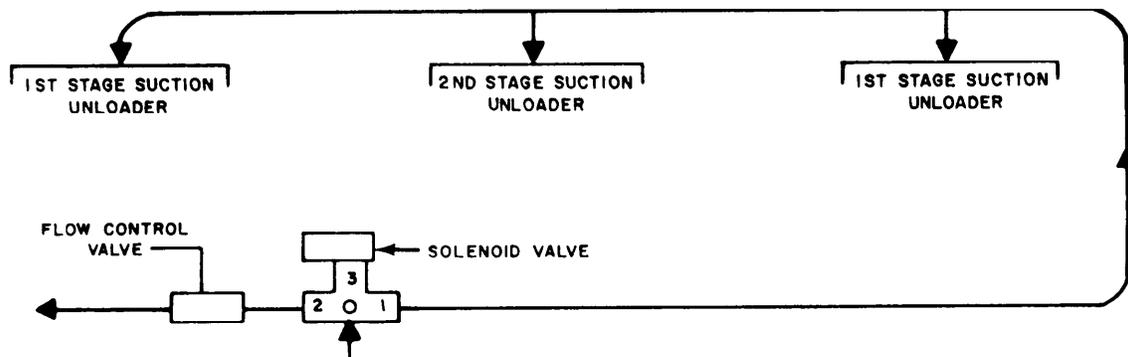

Figure 13-20.—Unloaded system from the oil-free low-pressure air compressor.
valve assemblies (fig. 13-19). The major components of the unloader assembly are the piston (108), springs (105, 106, and 107), and finger. The unloader assemblies (fig. 13-20) are actuated by a solenoid-operated valve that admits air to the top of the piston, forcing the piston and finger downward, unseating the suction valves, and causing the air compressor to be in an unloaded condition. The compressor becomes loaded when the solenoid-operated valve bleeds the air off the top of the piston in the unloader